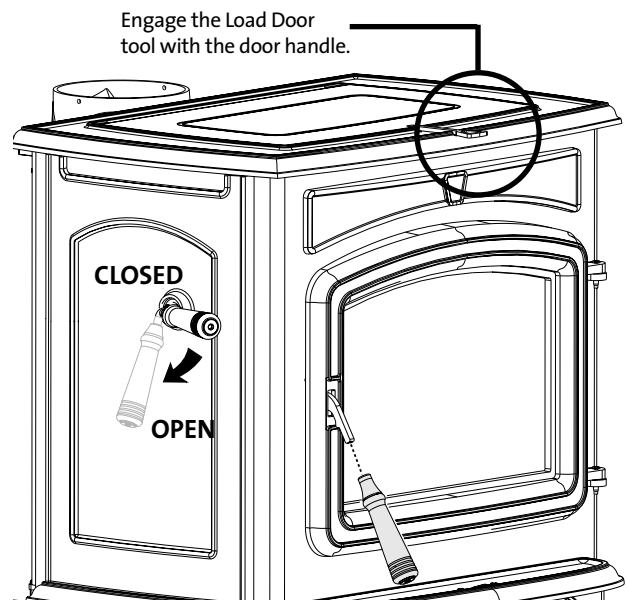

Figure 18. Baffle and door handle orientation.
**NOTE: The hinged heat exchanger baffle must be open in order to add wood to the fire through the top of the stove.** The baffle handle can be attached in any of four positions, however, we recommend that you orient it to mimic the orientation of the baffle itself; i.e. when the side handle is in a horizontal position, the baffle is also in a horizontal position - Closed. Swing the handle down into a vertical position to open the baffle. See fig. 18 and section 5.7 for more details.